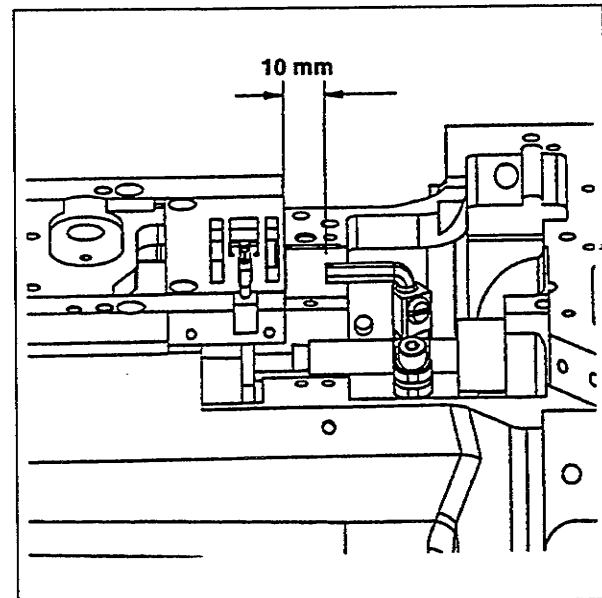

Fig. 6
- With needle bar at bottom dead center adjust looper holder so allen wrench is .400" (10 mm) from throat plate (Fig. 6).